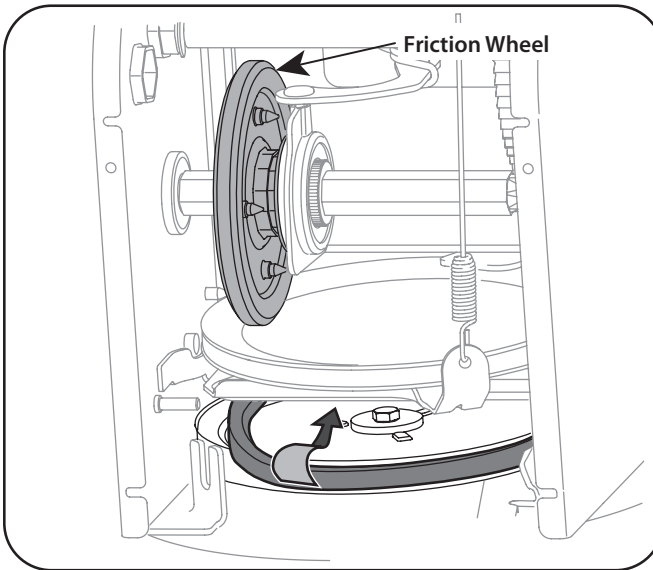

Figure 7-6
- Remove the belt from around the auger pulley, and slip the belt between the support bracket and the auger pulley. See Figure 7-6.